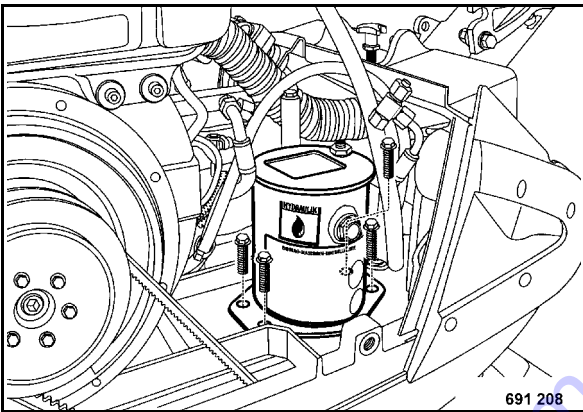

Fig. 77
- Unscrew and empty the hydraulic tank (Fig. 77).